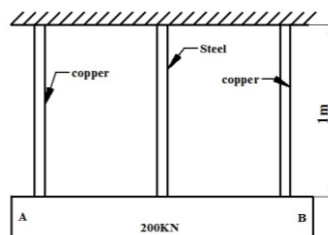

Figure 6
30. A horizontal rigid bar AB weighing 200kN is hung by three vertical rods, each of 1m length and  $500 \text{ mm}^2$  cross section as shown in **Figure 6**. the central rod is of steel and outer rods are copper. If the temperature rise is  $40^\circ \text{C}$ , estimate the load carried by each rod and by how much the load will descend. Take  $E_s=200 \text{ GN/m}^2$ ,  $E_c=100 \text{ GN/m}^2$ ,  $\alpha_s=1.2 \times 10^{-5} / ^\circ \text{C}$ ,  $\alpha_c=1.8 \times 10^{-5} / ^\circ \text{C}$ .